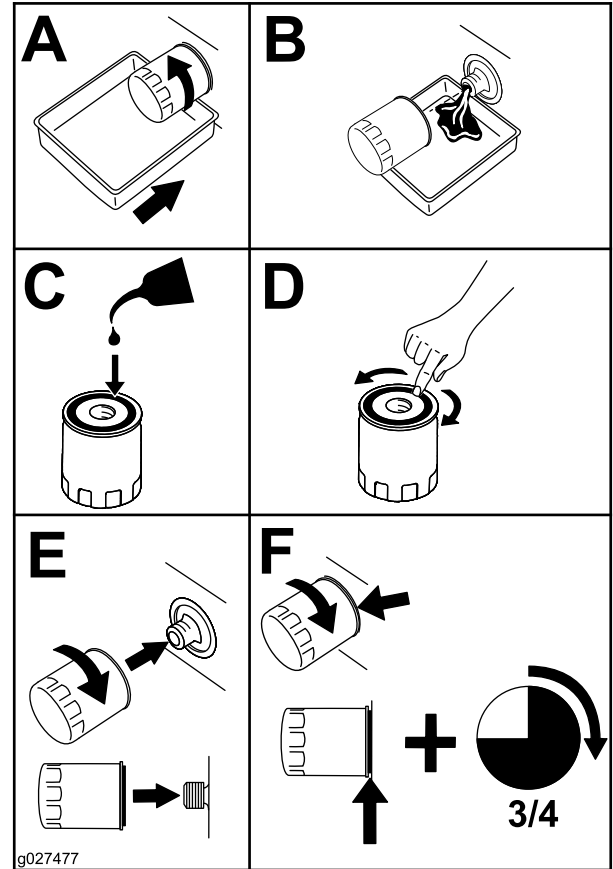

Figure 38
- Change the engine-oil filter (Figure 38).